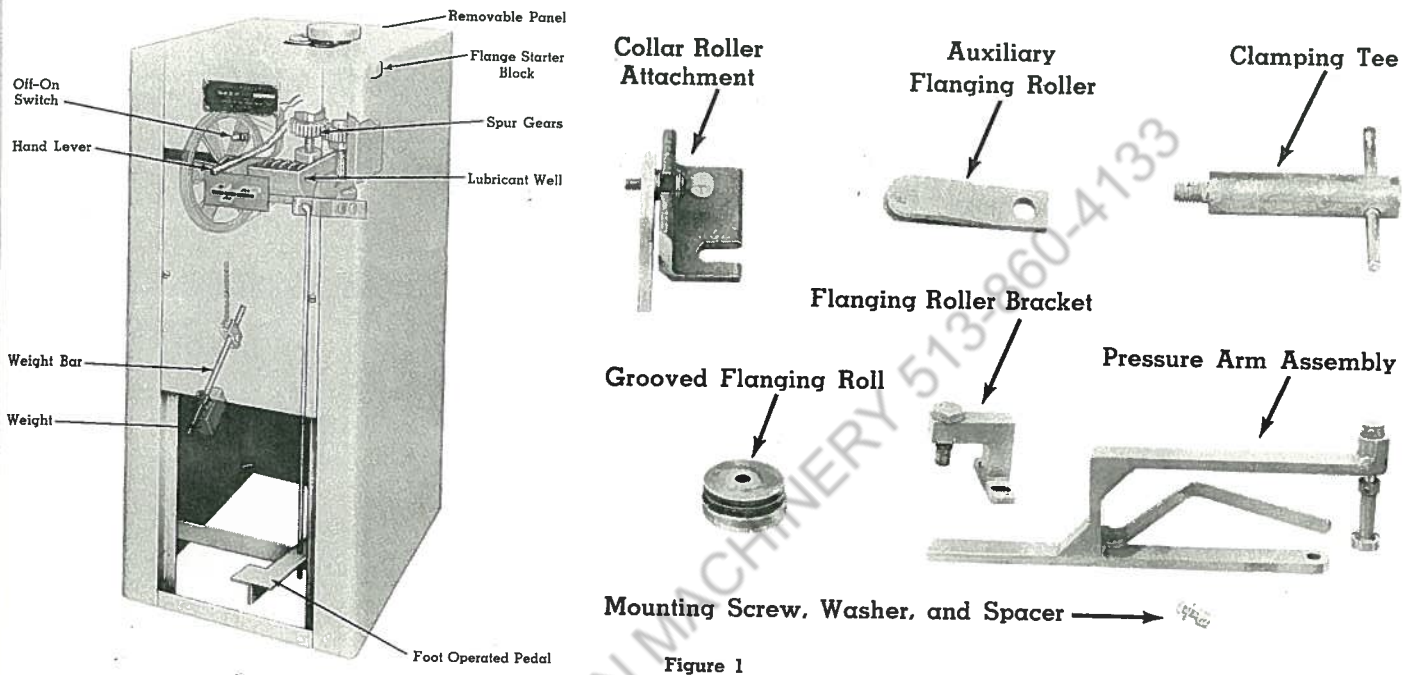
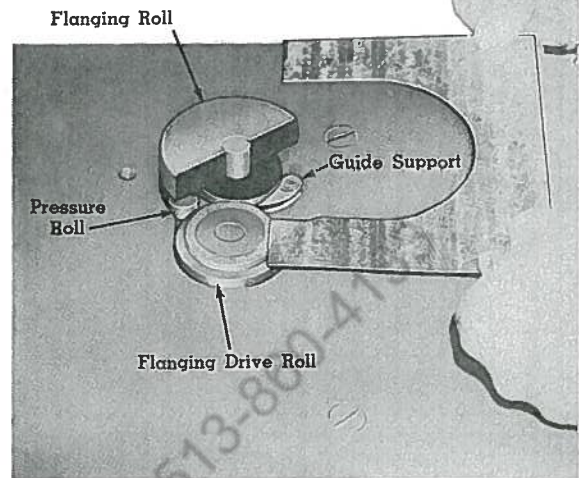

Figure 1
Figure 2
Before using this tool, apply the graphite jelly grease furnished with this tool in the lubricant well, identified in the inset of Fig. 1, to an approximate level of one inch (1") above the bottom of this well. Check this periodically.
**NOTE:** Too much grease will cause spillage over the walls of this well. Also apply this grease before using this tool and every four (4) months, on the two (2) spur gears above the lubricant well, see inset of Fig. 1, because these gears are not self-lubricated from the lubricant well. Also add a few drops of oil on the knurling of the flanging drive roll, identified in Fig. 2, to prevent accumulation of galvanized flaking on this wheel as much as possible. The motor requires no lubrication.
The flanging roll overlaps the drive roll for forming the 3/16" flange. See Fig. 2.
The self-positioning pressure roll, on the outlet side of the flanging rolls, automatically exerts pressure on a piece of metal being flanged to eliminate manual pressure or guiding. See Fig. 2.
The guide support, on the inlet side of the flanging rolls, is held in a fixed position to steady the metal as it enters the flanging rolls. See Fig. 2.
The foot operated pedal, shown in the inset of Fig. 1, can be depressed downward to lift the flanging roll. This lift feature makes it possible to insert or remove metal anywhere along the flange edge without distorting the flange or metal.